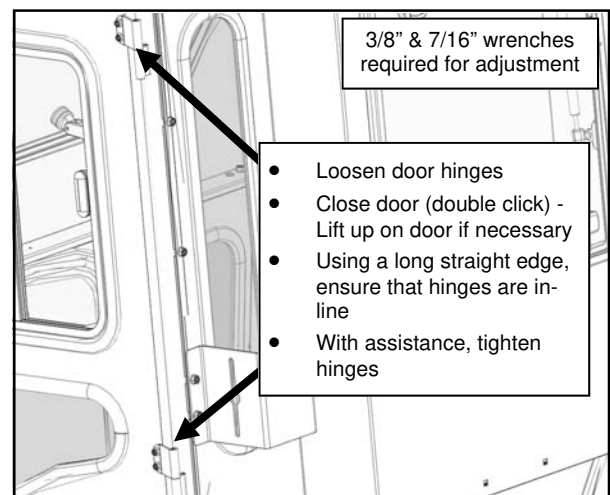

Fig. 11.3c (Door Hinge Adjustment)
- Adjust the hinges located at the rear of the door - See Fig. 11.3c